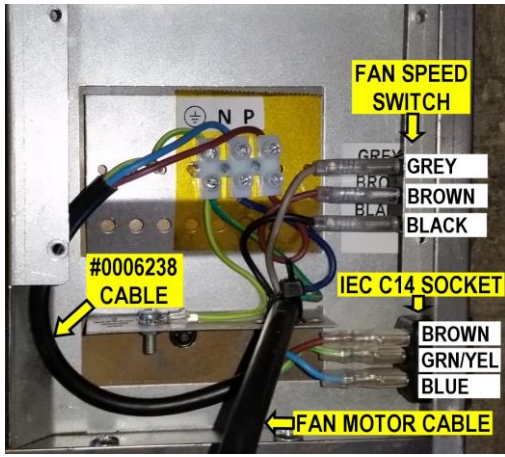

Fig. 15
- S6.** Connect the IEC C13 power plug to the IEC C14 socket (Fig. 15) in the side of the fascia.